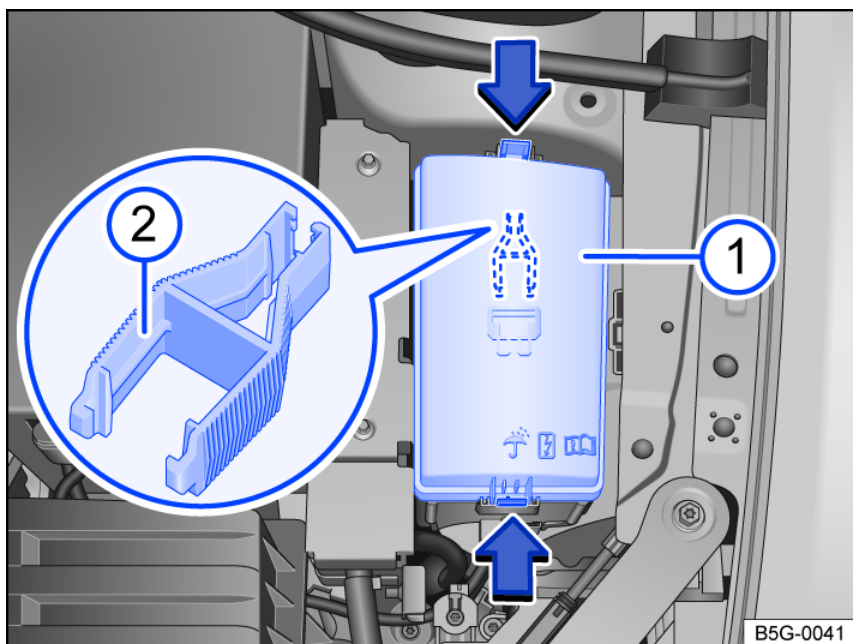

Fig. 173 In the engine compartment: Fuse box.
- ① Fuse box cover.
- ② Plastic pliers for pulling out fuses.
The plastic pliers *fig. 173* ② for removing fuses can be found on the inside of the fuse box cover or on the fuse panel.
- Press the catches in the direction of the arrow *fig. 173* ① to release the fuse box cover.